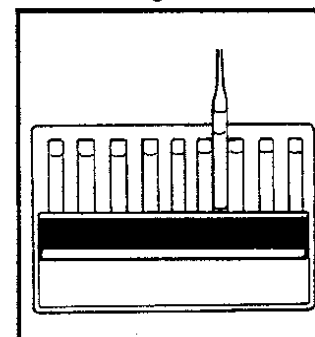

Figure 3
4. Hold the comparator in a nearly horizontal position while standing directly beneath a bright source of light. Place the CHEM Met ampoule between the color standards moving it from left to right along the comparator until the best color match is found (fig 3). If the color of the CHEM Met ampoule is between two color standards, a concentration estimate can be made.